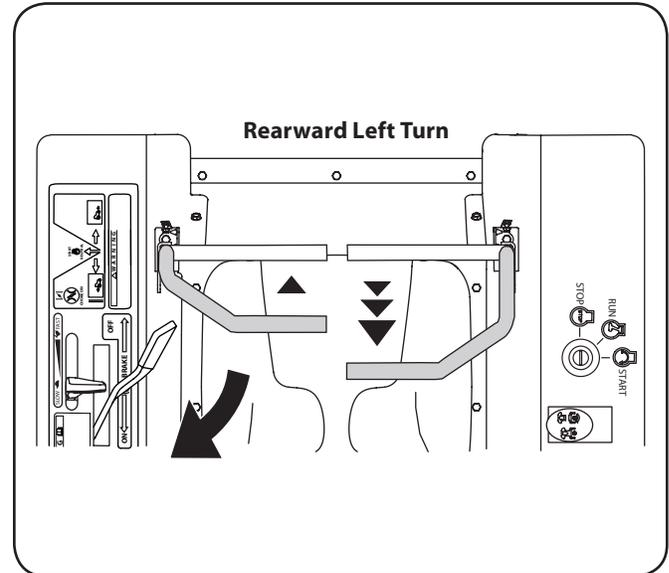

Figure 5-6
1. To turn to the left while traveling in reverse, move the left drive control lever forward of the right lever. See Fig. 5-6.